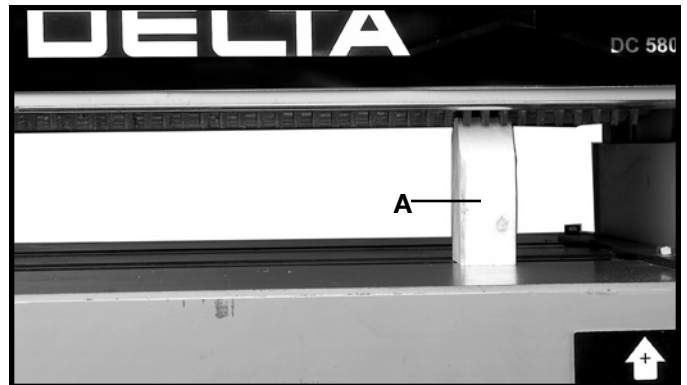

Fig. 50
4. Carefully move gage block (A) Fig.50, to the right hand side of the table directly under the cutterhead. The distance from table to cutterhead should be identical.